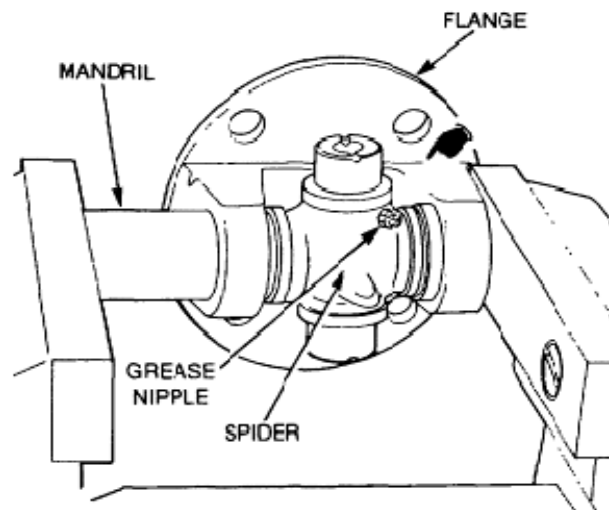

Figure 79 Bearing Cup Installation
- h. Using a suitable mandrel of slightly smaller diameter than the bearing cup, position the yoke in a vice (Figure 79).